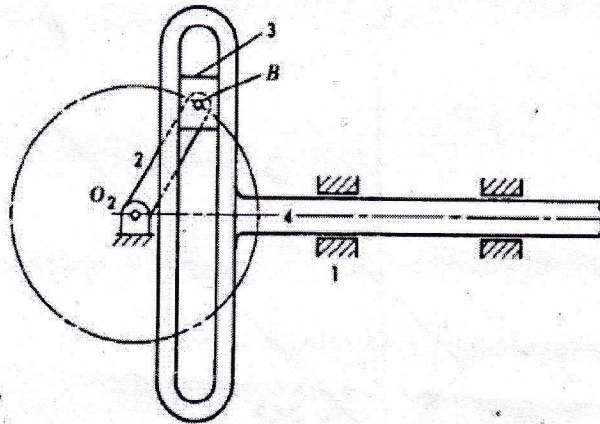

Figure 1
b) Identify following inversion of mechanism shown in figure 1. [6]